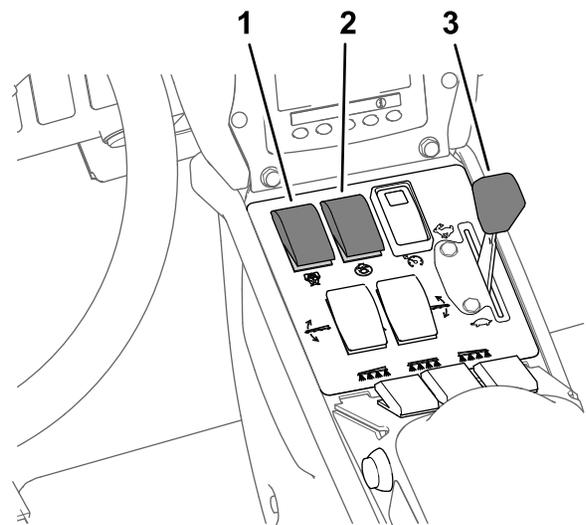

Figure 42
8. Set the agitation switch and the spray-pump switch to the ON position (Figure 42).
9. Set the throttle to the FAST position (Figure 42).
Note: This procedure assumes that the spray pump is on; refer to Figure 42 in Spraying in the Application Rate Mode (page 35).
4. Adjust the throttle to the desired engine speed to spray; refer to Figure 42 in Spraying in the Application Rate Mode \(page 35\).